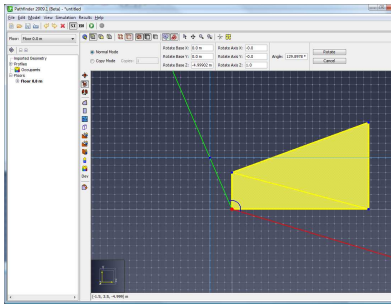

Figure 122. Reference line (red) and rotation angle (green)
- The second defines a reference vector extending from the rotation base (Figure 122).